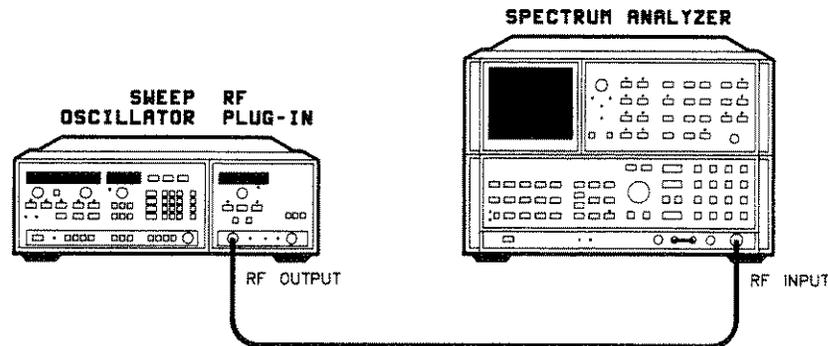

Figure 4-4. Frequency Stability Test Setup
1. Connect the equipment as shown in figure 4-4. Turn the equipment on. On both the sweep oscillator and the spectrum analyzer, press **[INSTR PRESET]**, and allow one hour warm up.